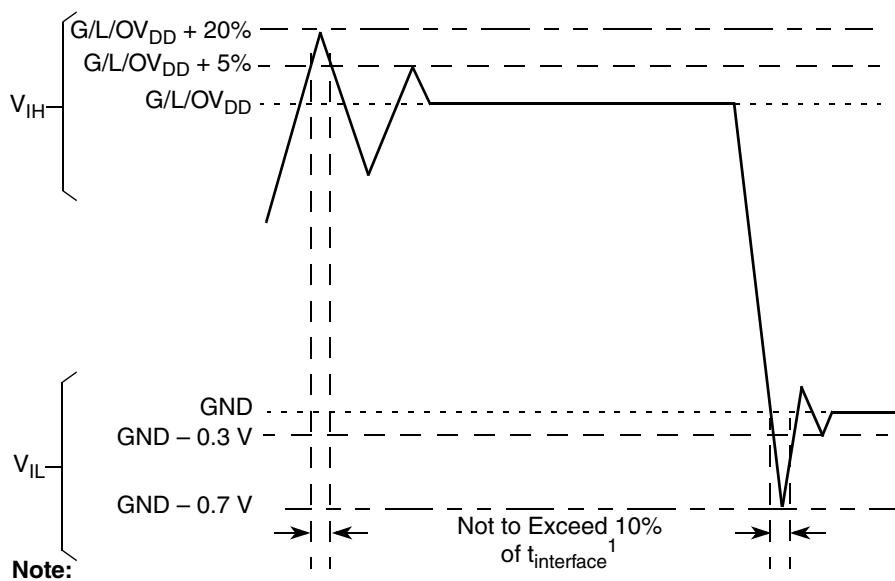

Figure 2. Overshoot/Uncertain Voltage for $GV_{DD}/OV_{DD}/LV_{DD}$
- ⁵ (M,L,O) V_{IN} and MV_{REF} may overshoot/undershoot to a voltage and for a maximum duration as shown in Figure 2.
Figure 2 shows the undershoot and overshoot voltages at the interfaces of the MPC8349EA.